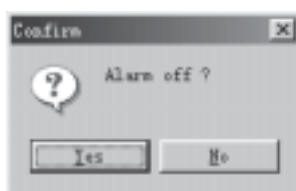

Fig. 7-5 Alarm Off
(2) Alarm Off: Double click the top of the record to cancel the alarm. Then click the $i^{\circ}Yesj^{\pm}$ button in the dialogue block shown at the same time as in Fig. 7-5.